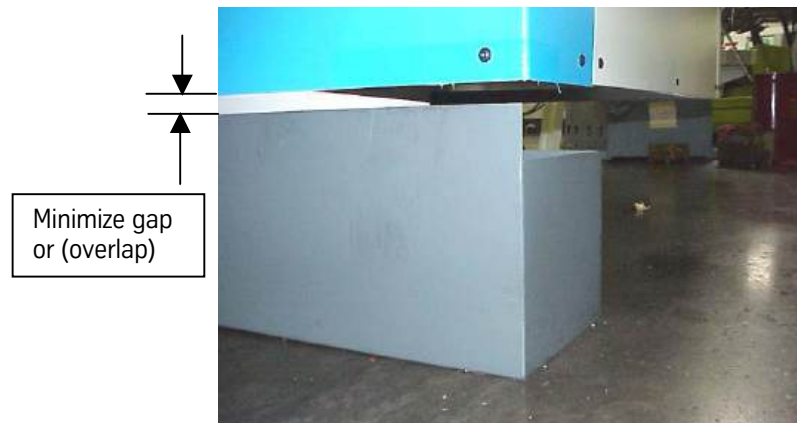

Figure 13-3
- 7) Adjust the machine height (during leveling and installation) to minimize the gap (or overlap) between the coolant tank face and the machine sheet metal, Figure 13-3.